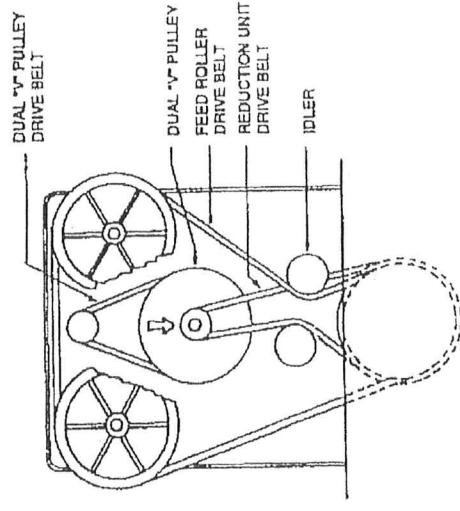

Fig. A-15
3. Adjust the tension on the belt from the cutterhead to the dual V-pulley by pushing down on the dual V-pulley (see fig. A-15). The bolt in the stub shaft will slide down in the slot until the belt is tight. While keeping the belt tensioned, retighten the bolt in that stub shaft.